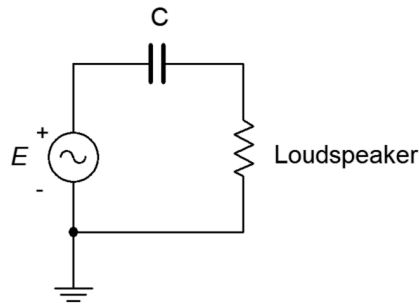

Figure 2.38
66. The circuit of Figure 2.38 can be used as part of a loudspeaker crossover network. The goal of this circuit is to steer the high frequency tones to the high frequency transducer (labeled here as "Loudspeaker" and often referred to as a *tweeter*). A similar network substitutes an inductor for the capacitor to steer the low frequency tones to the low frequency transducer (AKA *woofer*). These networks can be pictured as frequency sensitive voltage dividers. At very low frequencies, X_C is very large and blocks low frequency tones from reaching the tweeter. A mirror situation occurs with the